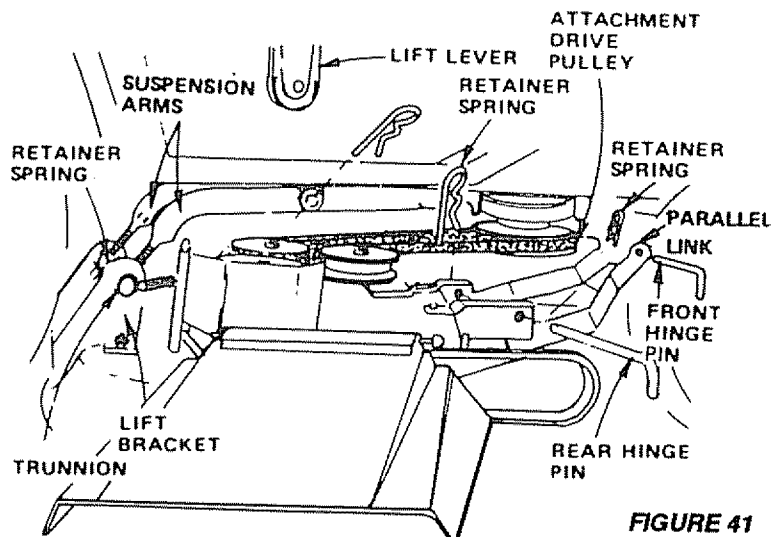

FIGURE 41
- To raise rear of mower, loosen nut "E" on both rear suspension arms. Screw both nuts "F" up an EQUAL NUMBER OF TURNS (Fig. 41).
- Pull retainer springs out of rear suspension trunnions. Remove rear suspension trunnions from lift brackets (Fig. 41)
- Pull retainer spring out of rear hinge pin. Remove rear hinge pin (Fig. 41).
- Pull retainer spring out of front hinge pin. Remove front hinge pin (Fig. 41) and parallel link.
**BEFORE DRIVING YOUR TRACTOR, INSTALL MOWER OR REMOVE PARALLEL LINK (FIG. 41).**
**NOTE:** IF AN ATTACHMENT OTHER THAN THE MOWER DECK IS TO BE MOUNTED ON THE TRACTOR, THE L.H. AND R.H. SUSPENSION ARMS (FIG. 41) SHOULD BE REMOVED.